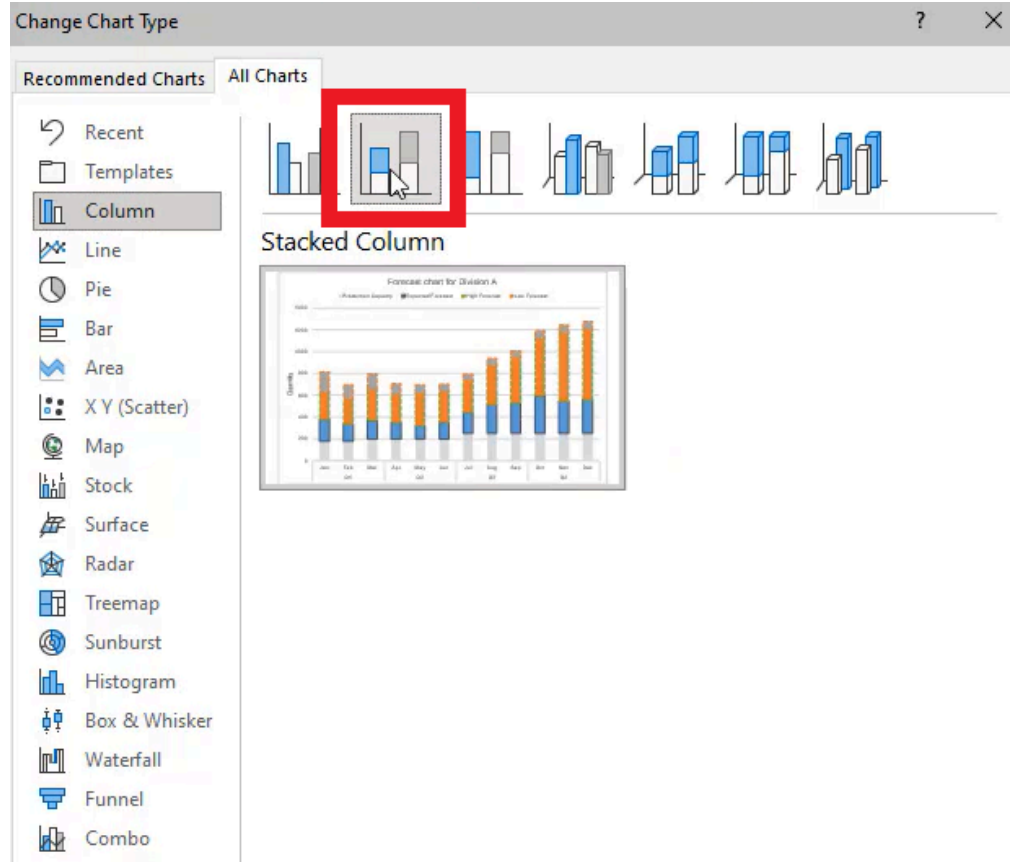

Figure 37.31
- a. This is an **accumulative** chart format, so it adds series of data on top of each other. (See **Figure 37.31**)